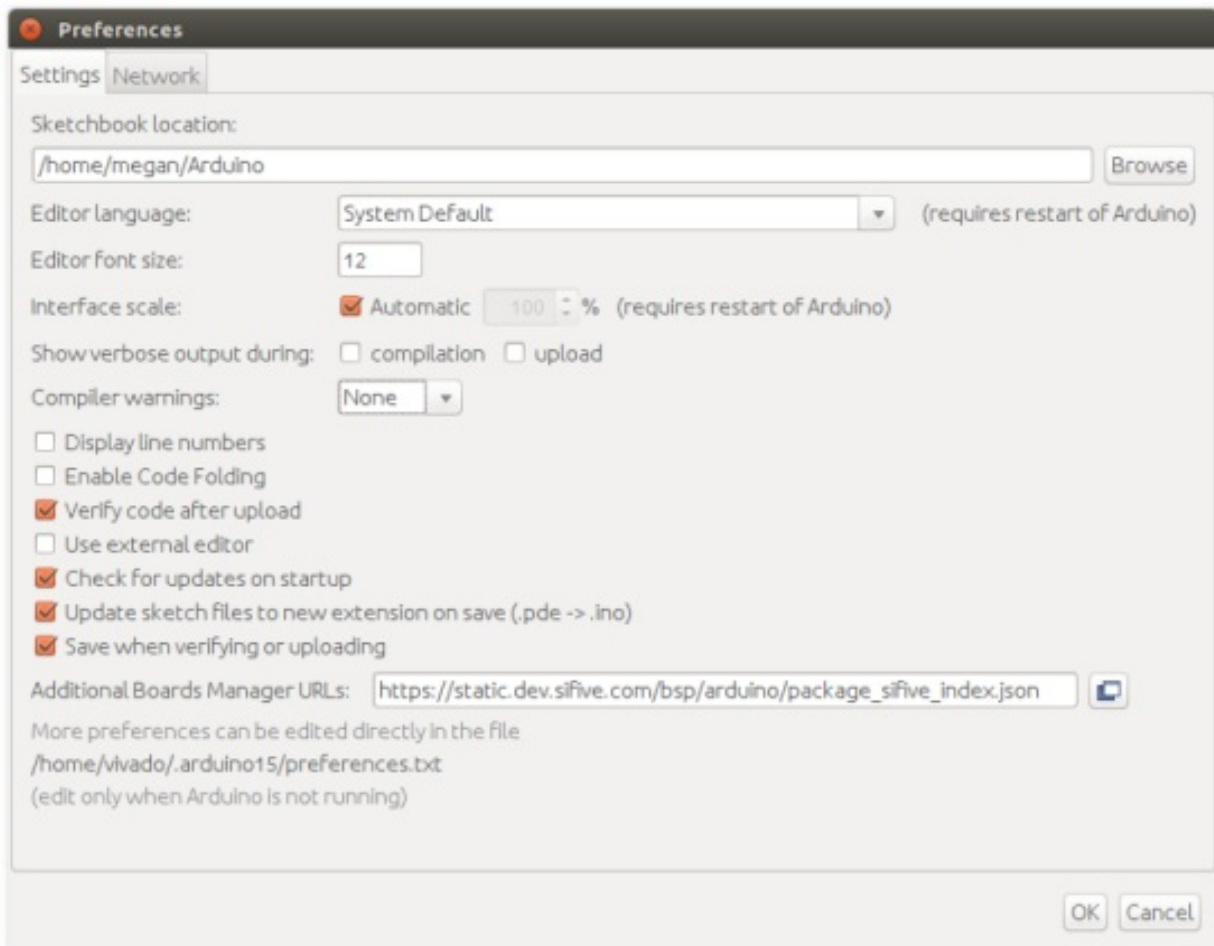

Figure 6.1: Adding the SiFive Dev Kits Board URL to your Arduino IDE
3. Navigate to File → Preferences and add the SiFive additional Board Manager URL as shown in **Figure 6.1**: